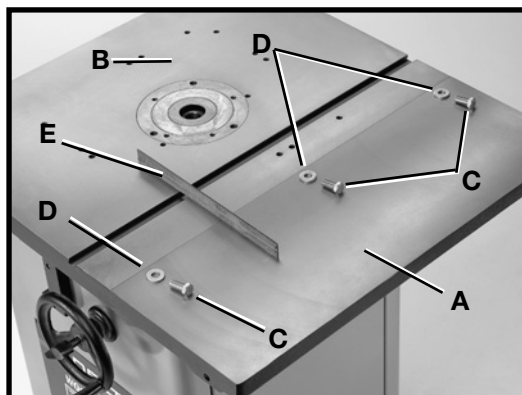

Fig. 4
Attach the extension wing (A) Fig. 4 to shaper table (B) using three 7/16-20 x 1" hex head screws (C) and flat washers (D). Use a straight edge (E) Fig. 4 to level the extension wing with the shaper table before tightening the three screws (C). Attach and level the remaining extension wing.